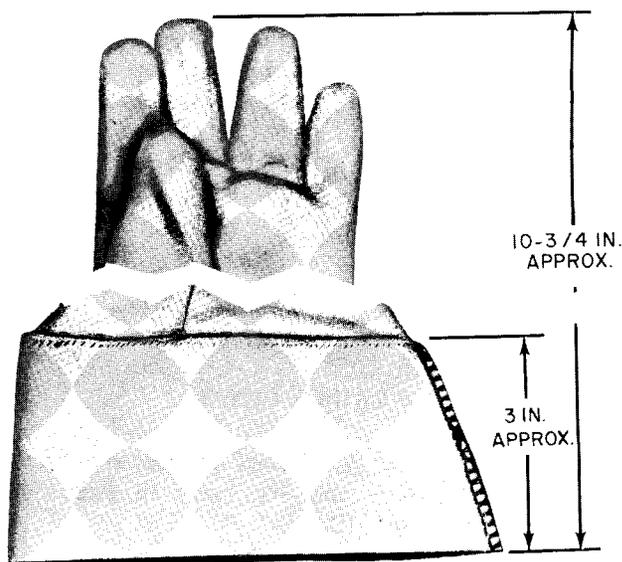

Fig. 3—Fabric Liner Glove
**4.01** C Fabric Liner Gloves are formfitting gloves made of lightweight interlock knit cotton cloth. They are equipped with 3-inch wide rubberized fabric gauntlets. The over-all length of the gloves is about 10-3/4 inches (Fig. 3).